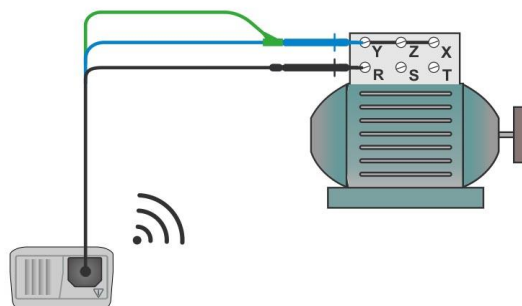

Figure 5.11: 3-wire test lead application
- ☐ **Connect** test leads to the tested object (see figure 5.11).